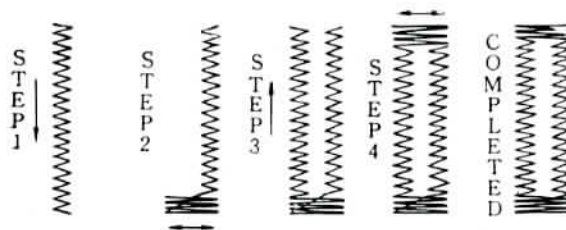

Fig. 35
- (5) Lower needle carefully into the mark on the fabric, indicating the start of the buttonhole. Lower presser foot and sew full length of right-hand side of buttonhole. Fig. 35 STEP 1
- (6) Set decorative stitch dial 4 at bar tack setting STEP 2. Sew four or five stitches.
- (7) Set decorative stitch dial 4 for left-hand side of buttonhole. This will automatically set the machine to sew in reverse. Sew left-hand side of buttonhole. STEP 3
- (8) Set decorative stitch dial 4 at bar tack setting STEP 4. Sew four or five stitches.
- (9) Return stitch width lever 14 to 0 and take two or three stitches to fasten bar tack threads and prevent ravelling.
- (10) Cut the buttonhole opening with seam ripper, being careful not to cut the stitching.